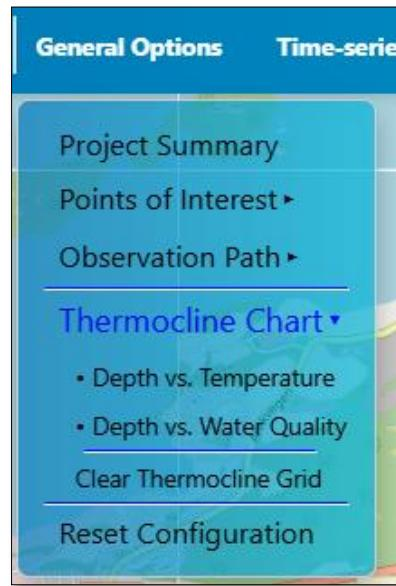

Figure 4.8. Thermocline Chart option
- ❖ *Thermocline Chart*: The user can visualize a thermocline chart for a HYD simulation or a vertical profile for a WAQ simulation at a specific location by using the option “**Thermocline Chart/Depth vs. Temperature**” and “**Thermocline Chart/Depth vs. Water Quality**”, respectively (**Figure 4.8**).
The user can delete the thermocline chart by using the “***Clear Thermocline Grid***” on this submenu (**Figure 4.8**).